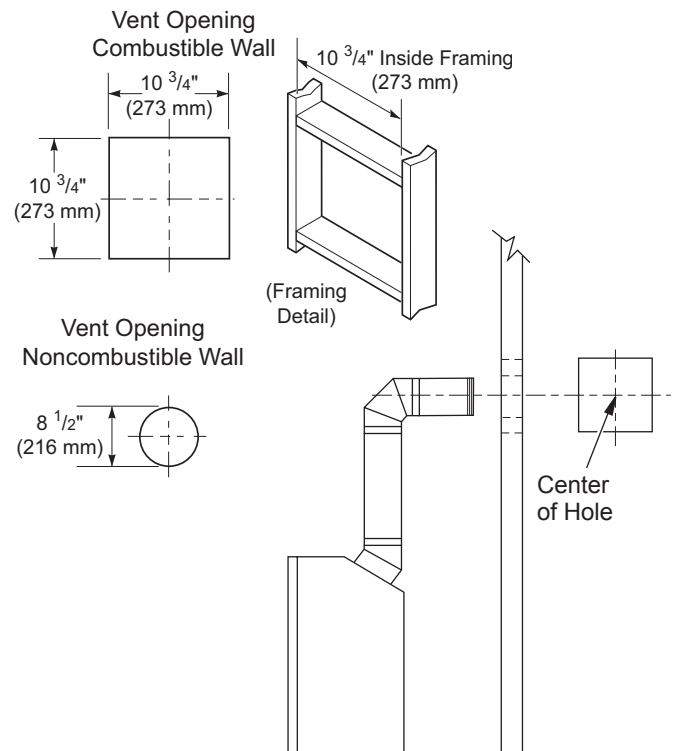
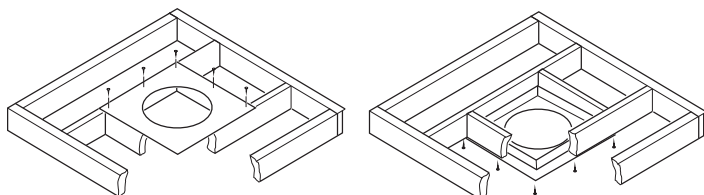

Figure 9 - Vent Opening Requirements
Figure 20 - Installing Firestop
- Carefully determine the location where the vent pipe assembly will penetrate the outside wall. The center of the hole should line up with the center-line of the horizontal vent pipe. Mark the wall for a 10 ³/₄" x 10 ³/₄" square hole. Cut and frame the square hole in the exterior wall where the vent will be terminated. If the wall being penetrated is constructed of noncombustible material, such as masonry block or concrete, a 8 ¹/₂" hole with zero clearance is acceptable (see Figure 9).
1. Cut a 10 ³/₄" square hole in the ceiling using the locating hole as a center point. The opening should be framed to 10 ³/₄"x10 ³/₄" (273 mm x 273 mm) inside dimensions, as shown in Figure 9 on page 8 using framing lumber the same size as the ceiling joists. If the area above the ceiling is an insulated ceiling or a room, nail firestop from the top side. This prevents loose insulation from falling into the required clearance space. Otherwise, install firestop below the framed hole. The firestop should be installed with no less than three nails per side (see Figure 20).
3. Cut a hole in the roof using the locating hole as a center point. (Cover any exposed open vent pipes before cutting hole in roof.) The 10 ³/₄"x10 ³/₄" hole must be measured on the horizontal; actual length may be larger depending on the pitch of the roof. There must be a 1" clearance from the vent pipe to combustible materials. Frame the opening as shown in Figure 9, page 8.